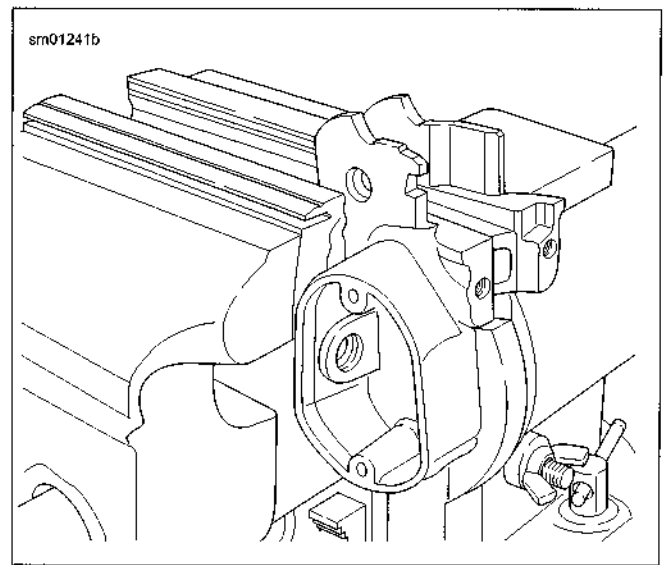

Figure 2-51. Clamping Front Master Cylinder
1. See Figure 2-51. Clamp master cylinder in a vise by mirror mounting boss. Point banjo fitting hole straight down.